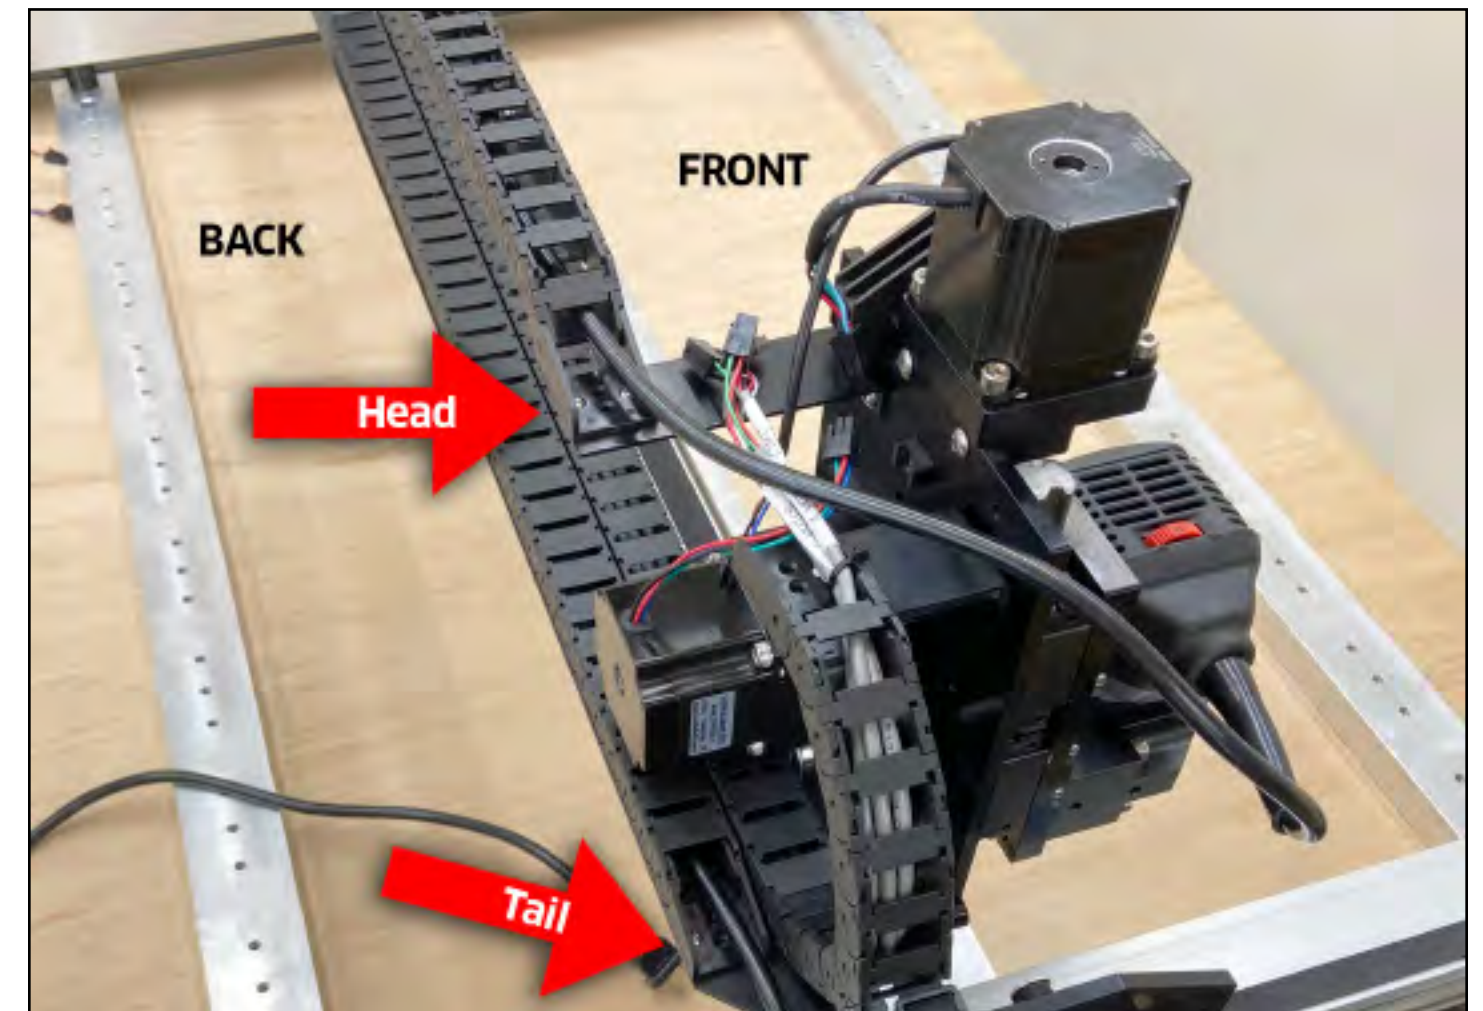

Figure 7-9
- Head of the drag chain attaches to the router head bracket. See **Fig. 7-9**.
- Use a 2mm hex key and two (2) M3×6mm BHCS to secure the drag chain head to the router head bracket. Fully tighten.
- Position the tail of the X-Axis drag chain over the two M3 integrated nuts at the Y-Left end of the X-Axis drag chain support panel. See **Fig. 7-9**.
- Use a 2mm hex key and the two (2) M3×6mm BHCS to secure the tail to the support panel.